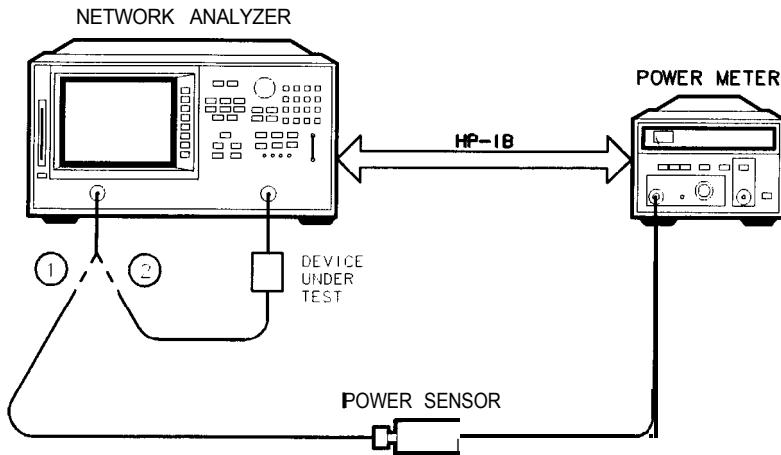

Figure 5-8. Sample-and-Sweep Mode for Power Meter Calibration
2. Connect the equipment as shown in Figure 5-8.